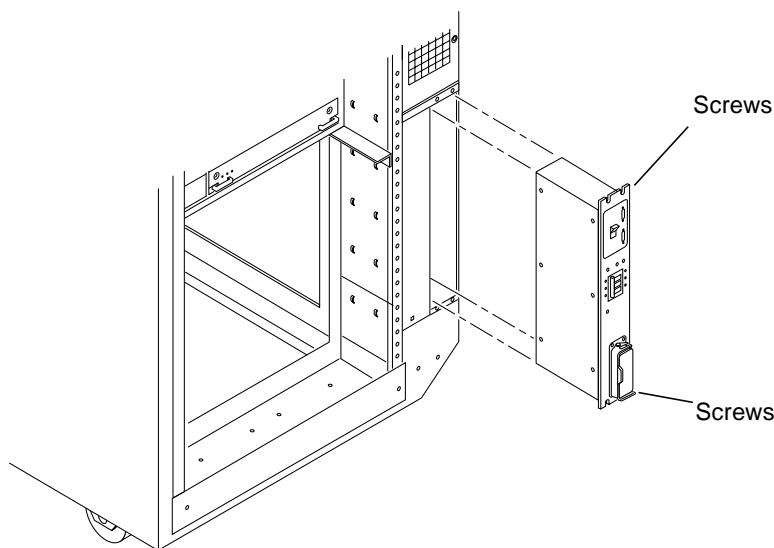

FIGURE E-3 Replacing the main Power Sequencer
5. Remove the two screws at the top of the power sequencer (FIGURE E-3).
3. **Replace the two screws at the bottom of the power sequencer (FIGURE E-3).**